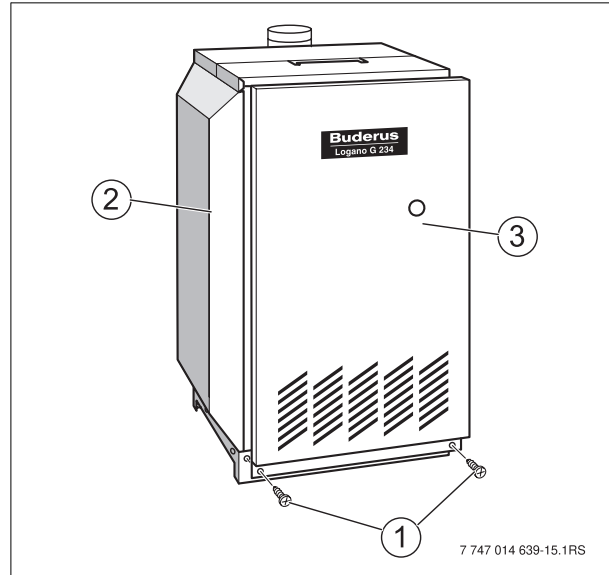

Fig. 3 Remove front wall of boiler
- ▶ Replace front wall of boiler (→ Fig. 3).